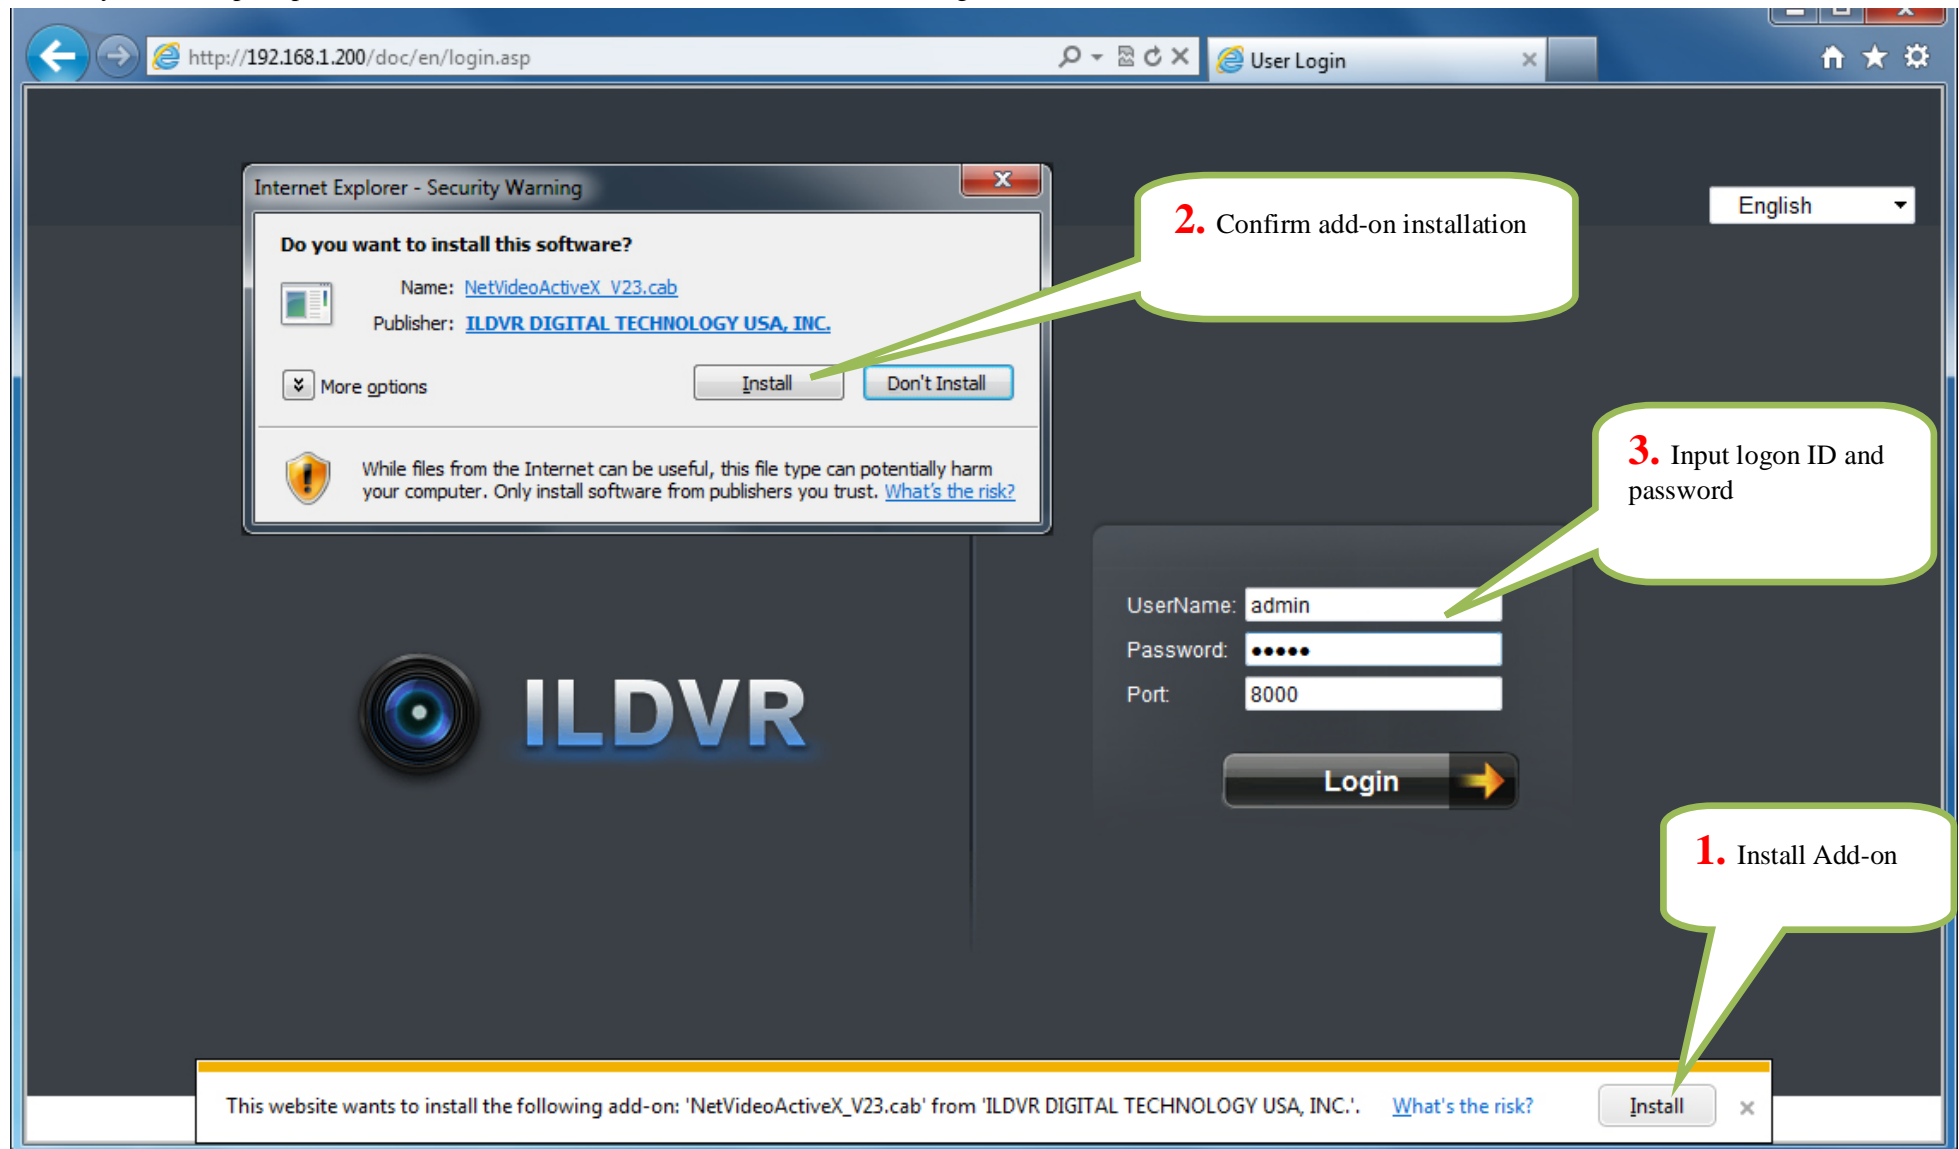

Figure 14.16. Log Search Export Menu
- 6) Log files can also be exported onto a USB device. To export a log file, connect a USB device to the DVR, select the log file to export and click the *Export* button to enter the Log Search Export menu, shown below in Figure 14.16. Click the *Export* button to export log onto USB device. The exported file will be named according to the time it was exported (e.g., 20120218143958logBack.txt).